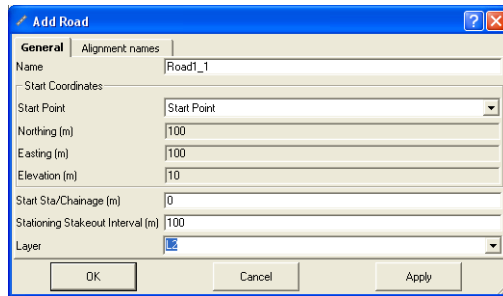

Figure 9-31. Add Road Dialog Box- General Tab
2. In the *General* tab of the **Add Road** dialog box, enter the following parameters (Figure 9-31):